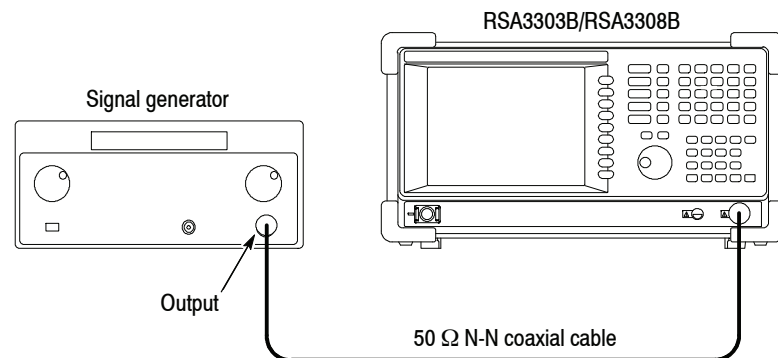

Figure 3-12: Hookup for checking the absolute amplitude accuracy
- a. *Hook up the instruments:* Connect the signal generator output through a 50 Ω N-N coaxial cable to the RSA3303B/RSA3308B **Input**. See Figure 3-12.
- a. *Hook up the instruments:* Connect the signal generator output through a 50 Ω N-N coaxial cable to the RSA3303B/RSA3308B **Input**. See Figure 3-12 on page 3-25.